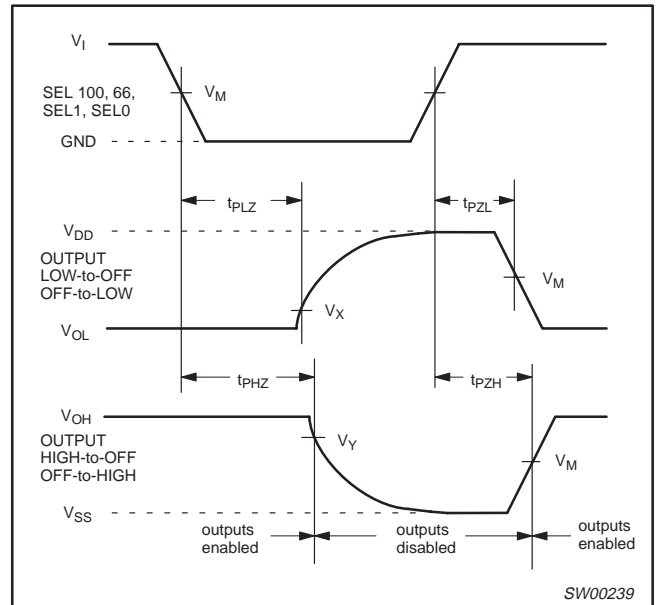

Figure 4. 3-State enable and disable times.
- $T_{HKH}$  is measured @ 2.0V as shown in Figure 4.
- $T_{HKL}$  is measured @ 0.4V as shown in Figure 4.